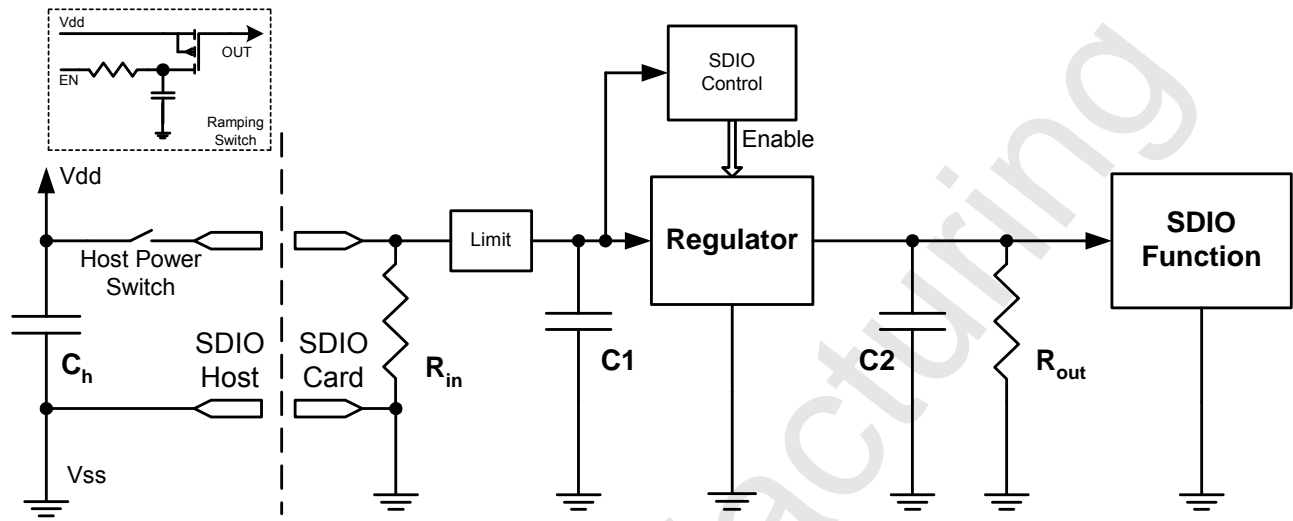

Figure 15-1 : SDIO Inrush Current
1. The maximum initial load (i.e. upon power-up) that can be placed in an SDIO card is 10 μ F in parallel with 220 Ω . The 10 μ F capacitance represents all bypass capacitor(s) directly connected across the V_{dd} lines in the card common area or function(s) plus any capacitive effects visible through any regulators in the card that are enabled at power-up. This is represented in Figure 15-1 by C1. The 220 Ω resistance represents the maximum current (15 mA) drawn by the card during connect. This is shown as R_{in} .
3. The hosts' V_{dd} power lines shall be able to withstand a hot insertion of the above loads without causing an upset of the hosts' operation. The host may achieve this tolerance by many methods. For example, a soft-start reduces the inrush current to the SDIO card on power-up. Additionally, a large capacitor on the V_{dd} lines (shown as Ch in Figure 15-1) can supply the needed inrush current. Standard bypass methods should be used to minimize inductance and resistance between the bypass capacitors and the connectors to reduce droop. The bypass capacitors themselves should have a low dissipation factor to allow decoupling at higher frequencies.
2. Maximum capacitive load changes shall not exceed 10 μ F when an internal regulator is enabled or disabled. This is shown as C2 in Figure 15-1.
Figure 15-1 Shows the various components that contribute to inrush current. In this diagram, the host has an optional power switch so that the card is inserted into a socket without power applied (i.e. a cold socket). The initial load is defined by C_1 and R_{in} where C_1 is the sum of all capacitance from V_{dd} to ground on the input side of the regulator and R_{in} represents the DC load of the regulator and the SDIO control circuits. The Host can control the timing of the application of power to the SDIO card by using the optional host power switch. If the host does not include a power switch, then the inrush current will begin to flow once the card is inserted and contact is made to the V_{dd} and V_{ss} pins. In this diagram, C_1 has a maximum value of 10uF and the R_{in} equivalent resistance is 220Ω minimum. The host shall be designed so that the insertion of a SDIO card that meets the input capacitance and resistance values defined above shall not be damaged or have its operation disrupted (i.e. a reset). On card insertion or enabling of the host power switch, charge will rapidly flow from the charge host capacitor (C_H) to the discharged input capacitor on the card (C_1). The charge will transfer and the voltage on the host V_{dd} line will drop in proportion to the ratio of C_H to C_1 . If $C_H = C_1$, the resulting V_{dd} droop will be 50%. If the host must limit the V_{dd} droop to 10%, then C_H should be 10 times the value of C_1 (100uF). Alternately, the host may limit the inrush current by using a semiconductor switch such as a FET for the host power switch. This is shown in Figure 15-1 as the ramping switch. By using a RC network to drive the FET gate, the V_{dd} applied to the card will be a ramp, rather than a near-instantaneous step. This reduced rise time will greatly reduce the inrush current, allowing a smaller C_H value to be used.
If the design of a SDIO card requires a input capacitance (C_1) larger than the 10uF maximum value, then some sort of limit is required as shown as the Limit block in Figure 15-1. This limit function reduces the inrush current to a value equal to or less than the current inrush of a 10uF capacitor. This limit device could be a ramping switch similar to the one shown for the host.
Figure 15-1 also illustrates the use of a secondary voltage regulator (or switch) to power the SDIO function. Since the enabling of the power to the function may cause a secondary current surge to charge C_2 and since the host may not have control of the timing of this secondary surge, it is entirely the responsibility of the SDIO card to limit the effect on the host V_{dd} due to these secondary surges. Again, a ramping type switch is a possible solution as is a "soft start" regulator. The actual design is left to the SDIO card maker.